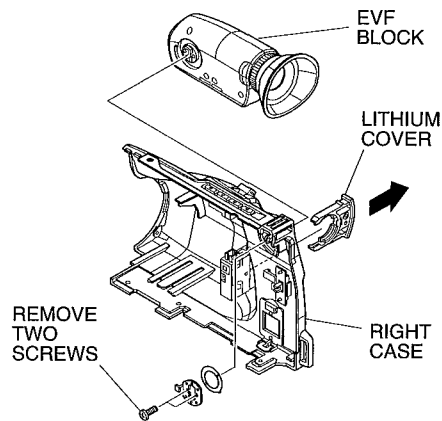

Fig. 2-4
2.3 Electronic Viewfinder (EVF) Block, Lithium Cover (Fig. 2-4)